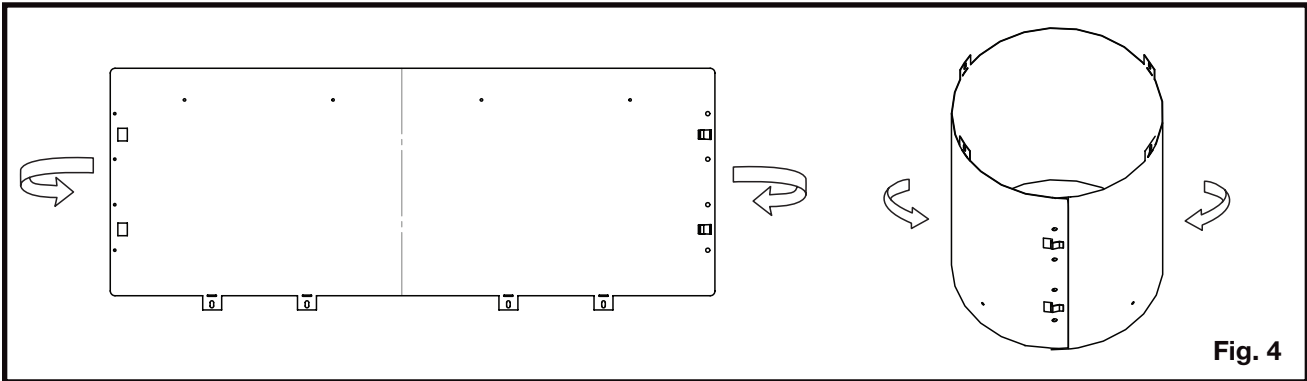

Fig. 4
- 4. Roll the vent sleeve as shown and ensure to clip the ends together (Fig. 4).